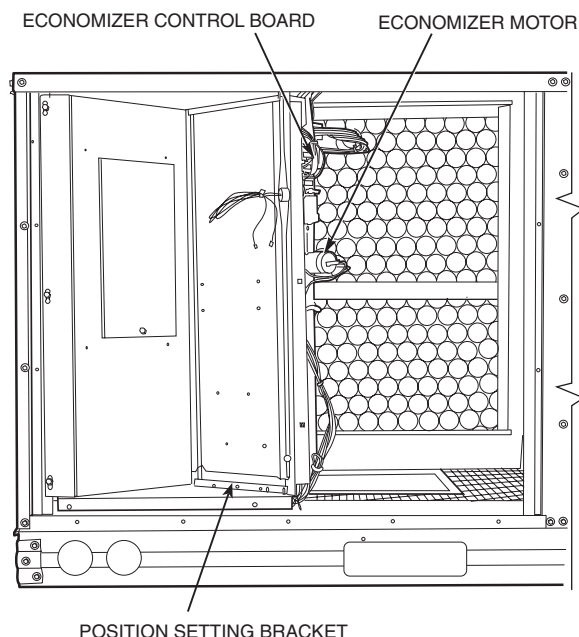

**Fig. 22 — Horizontal Durablade Economizer
- a. Rotate the economizer 90 degrees until the economizer motor faces the condenser section (see Fig. 22).